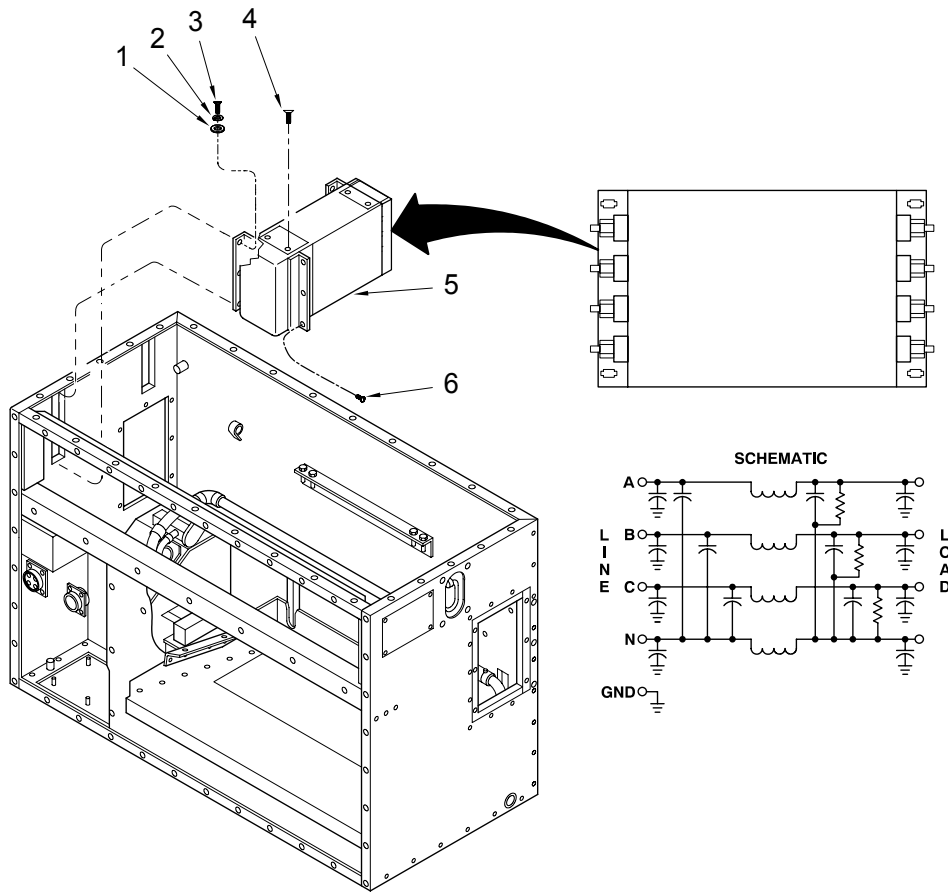

Figure 4. FILTER RADIO FREQUENCY INTERFERENCE (EMI).
1. Check the radio frequency filter housing (5) for physical damage such as dents, punctures, cuts, and ruptured seams. Replace if damaged. See Figure 4.
4. Remove mounting screws (3), lockwashers (2), and flat washers (1) securing the EMI filter to the evaporator assembly housing. See Figure 4.
2. Install mounting screws (3), lockwashers (2) and flat washers (1) to secure the EMI filter to the evaporator housing assembly. See Figure 4.